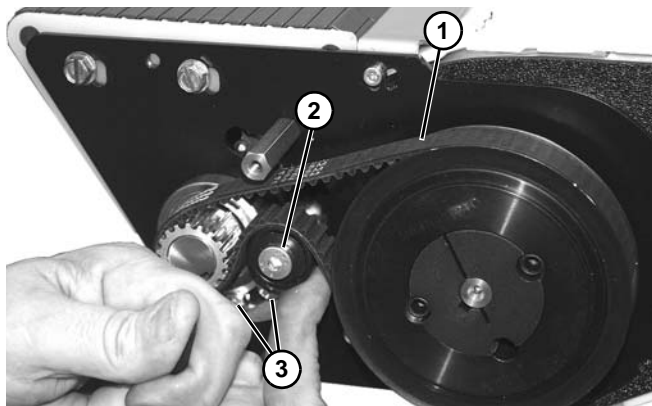

Figure 181
- On idler end, route and install belt (**Figure 181, item 1**) as shown. Press up on tensioner (**Figure 181, item 2**) and tighten two socket head screws (**Figure 181, item 3**).